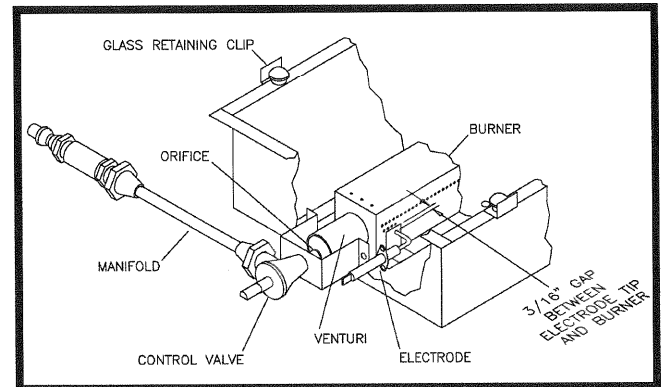

Figure 10 Location of Orifice, Venturi, Burner Control Valve, and Electrode
WARNING: THE BURNER VENTURI TUBE SHOULD BE INSPECTED FOR SPIDER WEBS AND OTHER OBSTRUCTIONS PRIOR TO EACH USE (SEE FIGURE 10, PAGE 10 FOR VENTURI LOCATION). IF ANYTHING IS FOUND, CLEAN THE TUBE COMPLETELY. A CLOGGED TUBE CAN LEAD TO A FIRE BENEATH THE UNIT.
4. While pushing the Spark Igniter Button depress and rotate the Burner Control Knob while checking for flame. Flame may be visually seen by looking into the Flame Observation Viewpoint on the side of the grill (See Figure 10, page 11). Also one can generally hear the burner ignite and then feel warmth rising to the cooking surface at the front and back of the Radiant Glass Panel when ignition occurs. If flame is not present and ignition does not occur within 10 seconds, turn the Burner Control Knob to "OFF" and wait 5 minutes before attempting to relight the grill. After waiting 5 minutes repeat steps 3 and 4. If the grill does not ignite using the spark ignition system, the burner may be ignited with a match following the procedure on Page 10.